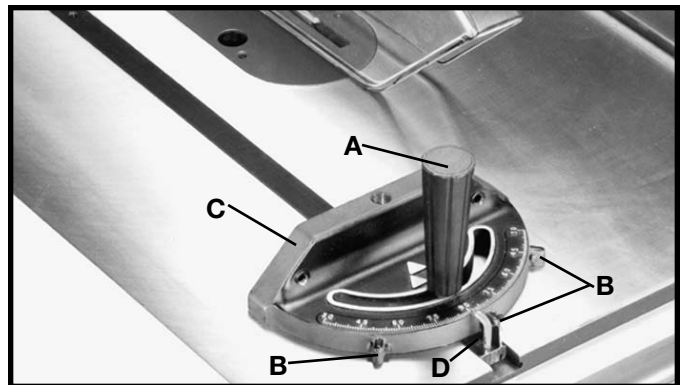

Fig. 128
The miter gage is equipped with adjustable index stops at 90 degrees and 45 degrees right and left. Adjustment to the index stops can be made by tightening or loosening the three adjusting screws (B) Fig. 128.
To rotate the miter gage, loosen lock knob (A) Fig. 128, and move the body of the miter gage (C), to the desired angle.
The miter gage body will stop at 90 degrees and 45 degrees both right and left. To rotate the miter gage body past these points, the stop link (D) Fig. 128, must be moved up and out of the way.